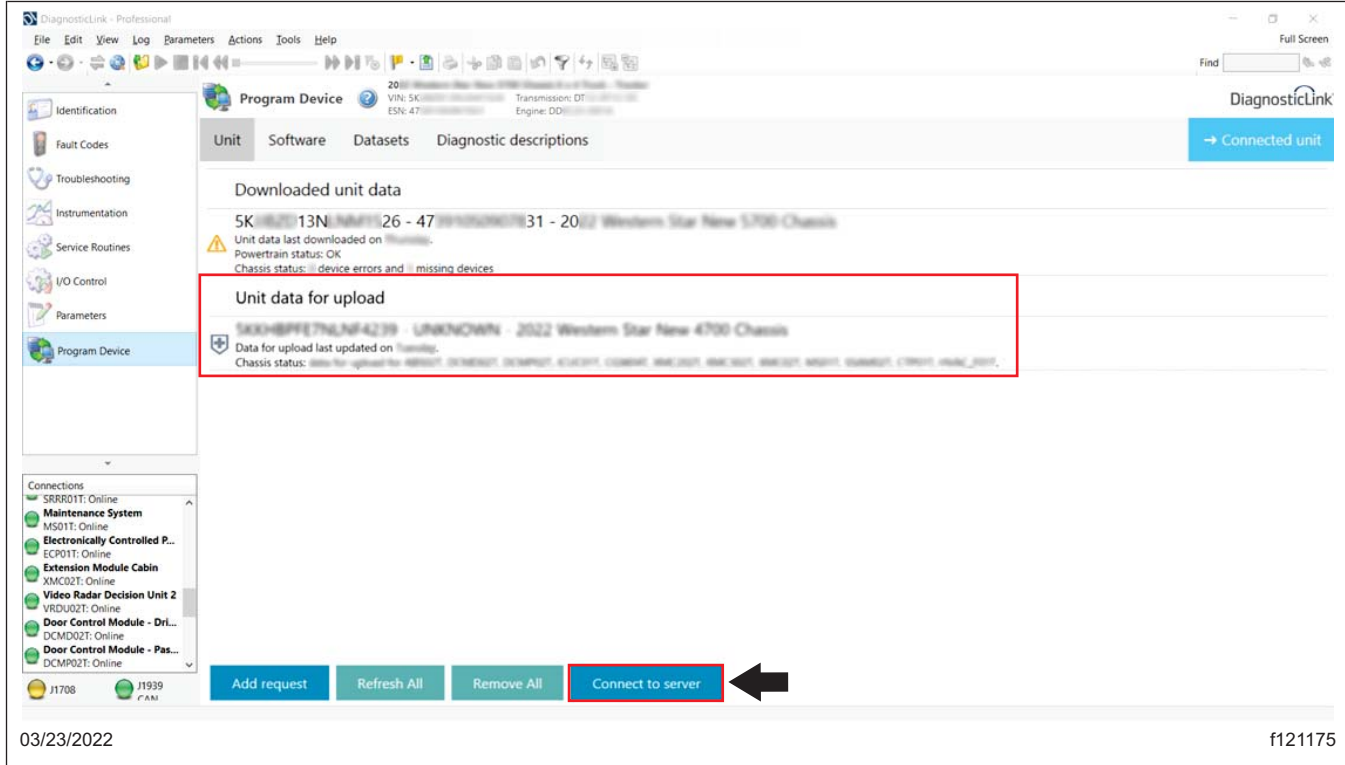

Fig. 7, Uploading the New Parameters
11. The information corresponding to the VIN should appear under 'Unit data for upload.' Select 'Connect to server' to upload the new parameters. See Fig. 7.